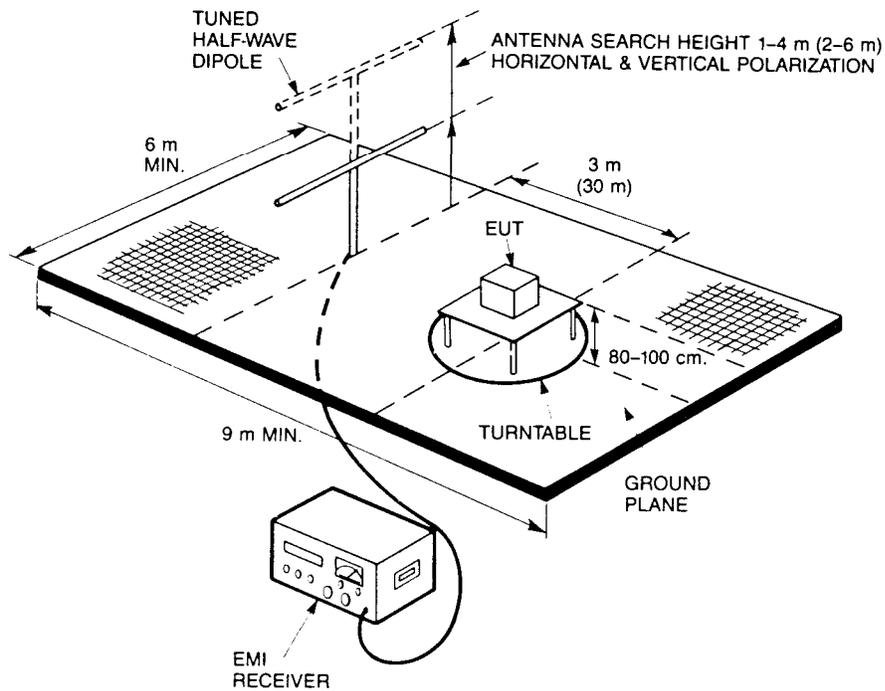

Figure 1-5. Open field test site for FCC radiated emission test. Equipment under test (EUT) is on the turntable.
- Figure 1-5 shows the test fixture for radiated emission tests.